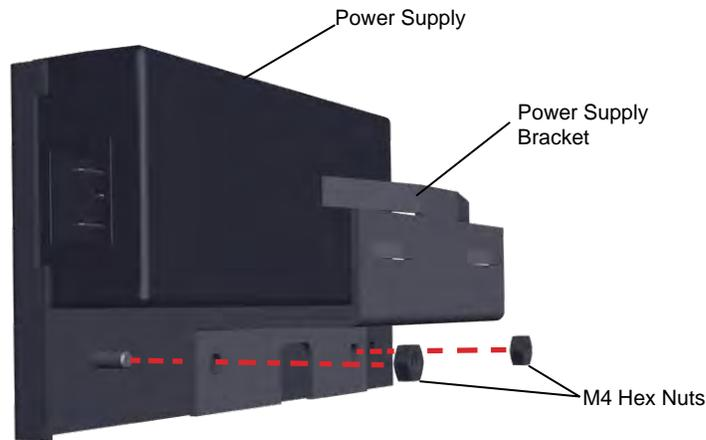

Figure 29. Reinstall bracket and power supply on long rack ear
3. Attach the power supply bracket to the longer (R) rack ear with 2 M4 hex nuts and insert the power supply with power cord outlet located to the back (Figure 29).